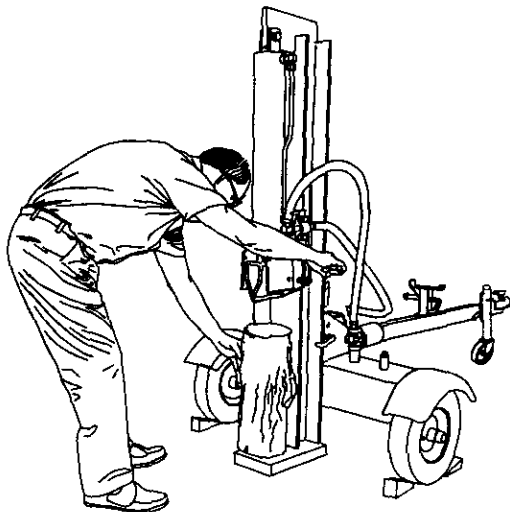

Figure 11
- Stand in front of the log splitter. Operate the control handle with your right hand and stabilize the log, if necessary, with your left hand. See Figure 11.